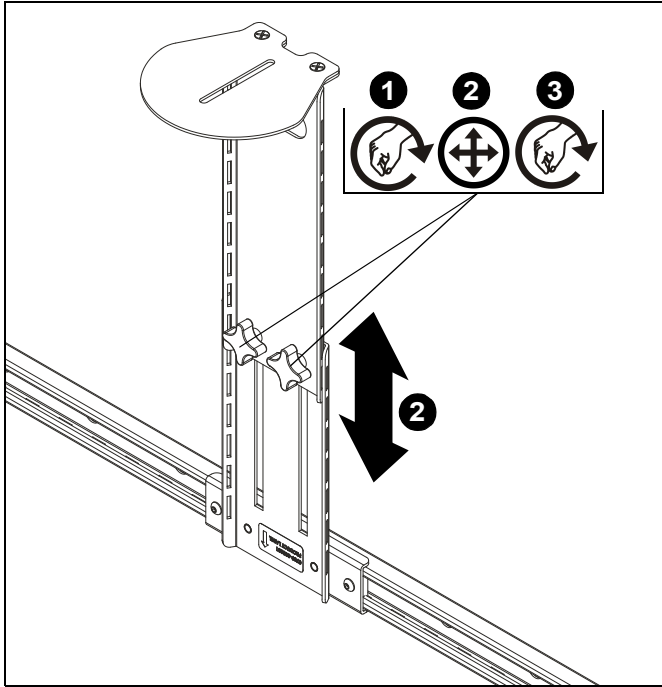

Figure 9
1. Loosen height-adjustment knobs on height-adjustment bracket (C). (See Figure 9)
2. Adjust height to desired height. (See Figure 9)
3. Tighten height-adjustment knobs on height-adjustment bracket (C). (See Figure 9)